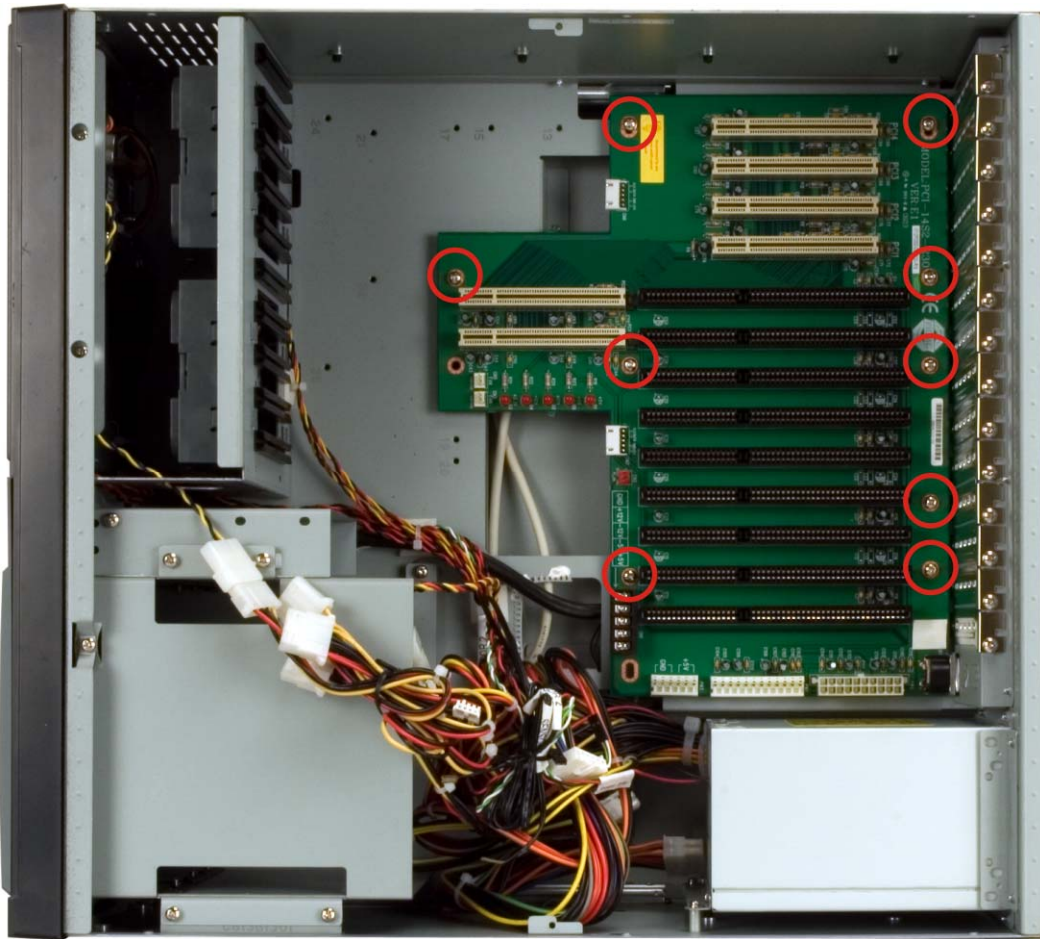

Figure 4-11: Backplane Retention Screws
Step 4: Insert retention screws to secure the backplane to the chassis (**Figure 4-11**)